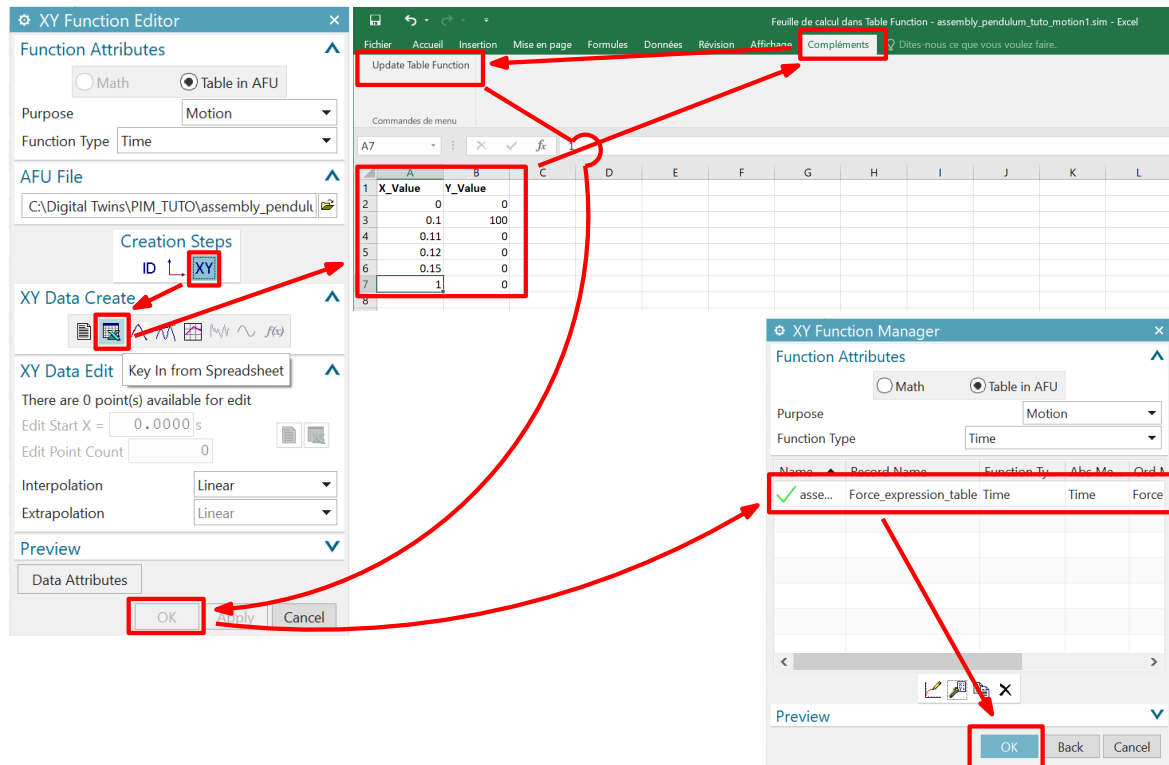

Figure 6: Creating a scalar force from an excel table - part 2
- In the excel spreadsheet you can enter your values, here we defined a force that is active only for 0.01s (put the same values as on the figure 6